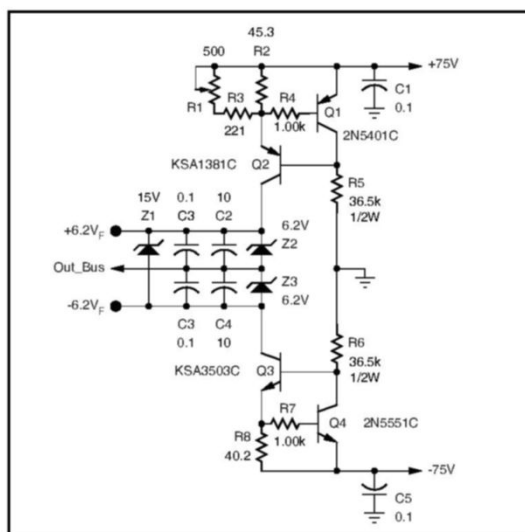

Figure 8: This schematic shows the floating power supplies on the Driver CCA used by the Bias Controller.
- [11] The remark shown in Figure 8 (a) underneath the graphs: nearly all shown OPAs have bias-cancellation circuits, exceptions are G (5534) and Q (AD8021).
Figure 8 shows the floating power supplies used by the Bias Controller. The $\pm 6.2\text{V}$ outputs are produced by simple shunt Zener regulation (Z2, Z3). The Zeners are fed from current sources referenced to the $\pm 75\text{V}$ regulated supplies used by the IPS and VAS. Q1 and Q2 form the positive current source; Q3 and Q4 the negative. Potentiometer R1 balances the two current sources to minimized the current into, or out of, the ground reference. Q1 and Q4 are mounted close together to improve thermal tracking. Ideally, they would be in the same package or cemented together. Zener Z1 is a fail-safe, in the event one of the other Zeners fail.